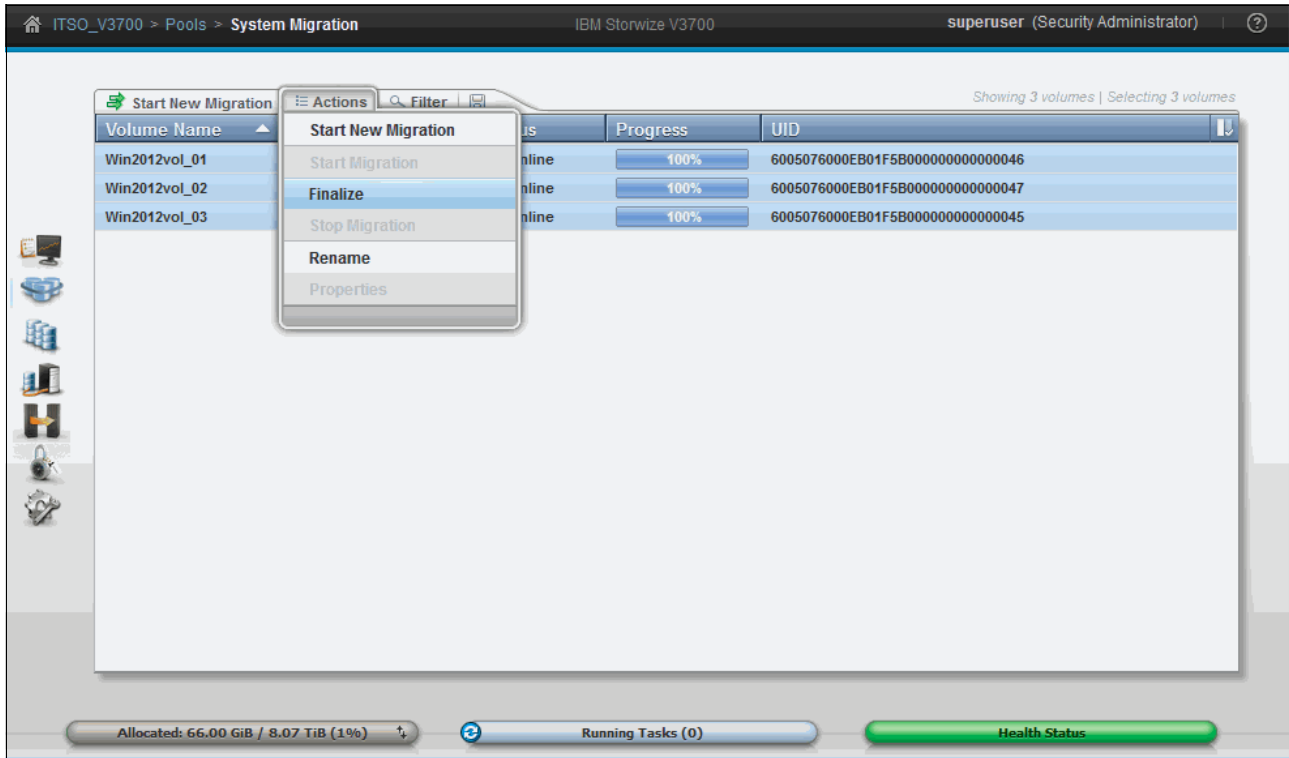

Figure 6-63 Finalize storage migration
2. Select the **Actions** box and the **Finalize** option, as shown in Figure 6-63. Alternatively, right-click the selected volumes and click **Finalize**.